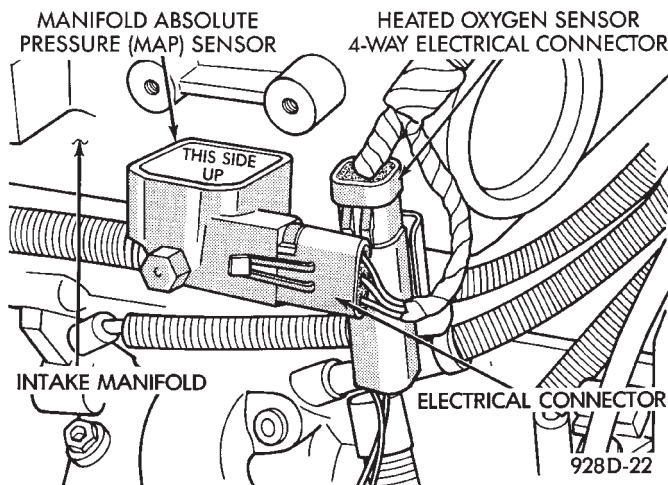

Fig. 9 MAP Sensor Electrical Connector
- (11) Disconnect electrical connectors from the MAP sensor and heated oxygen sensor electrical connection. Remove the engine mounted ground strap (Fig. 9).